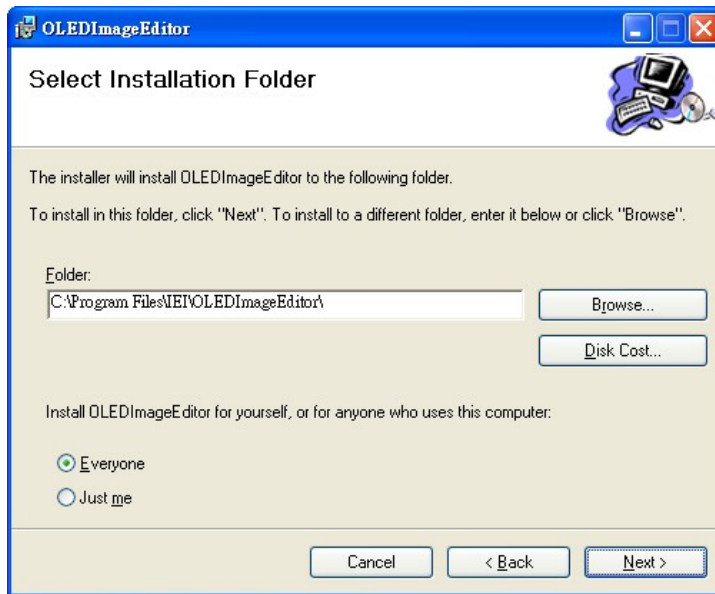

Figure 6-2: Select Installation Folder
Step 4: Select a folder for OLED Image Editor Installation in **Figure 6-2**. Click **Next** to continue.